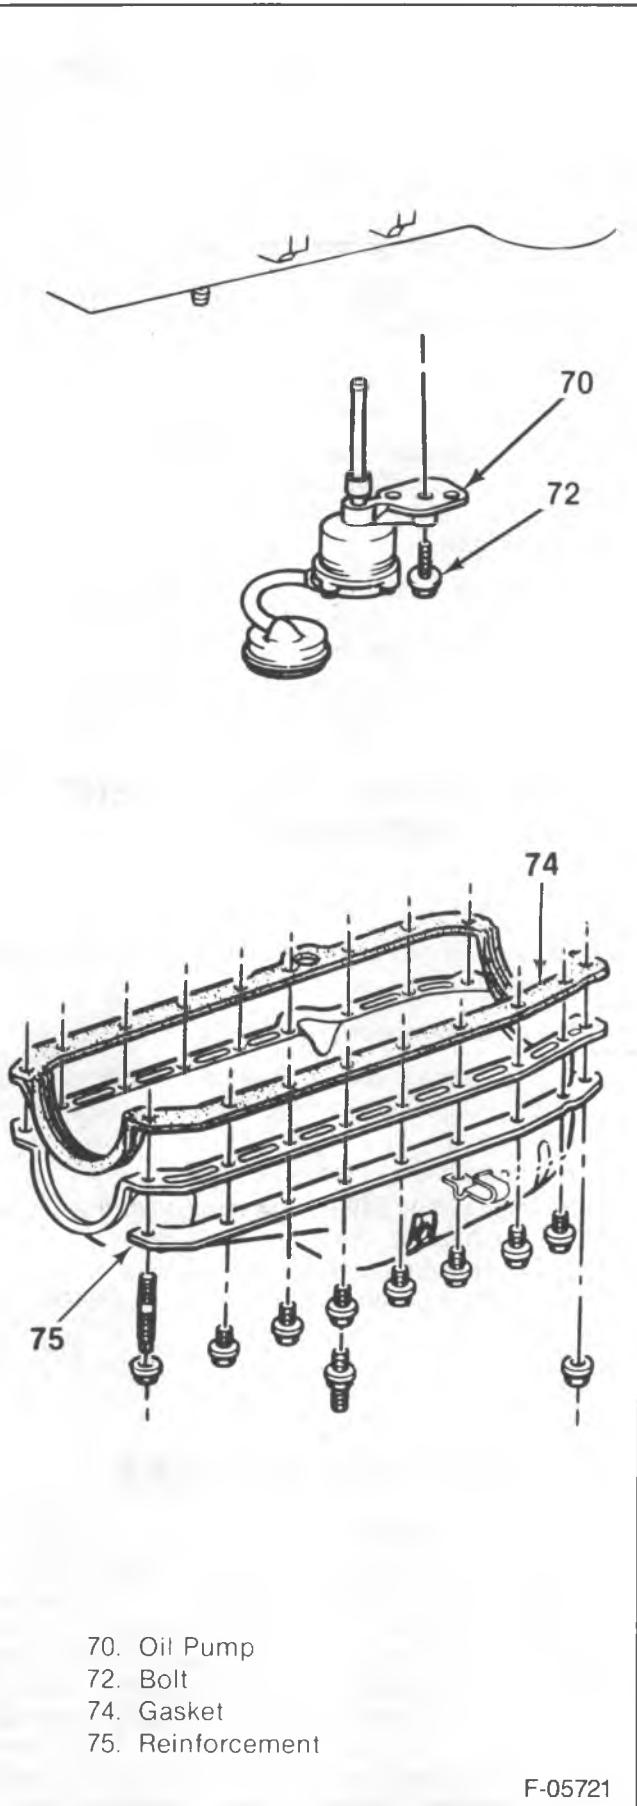

Figure 67—Oil Pan (5.0L and 5.7L Engines)
Install or Connect (Figure 67)
- Apply PST sealer (GM part no. 1052080 or equivalent) to the front cover to block joint and rear crankshaft seal retainer to block joint as shown in figure 67.